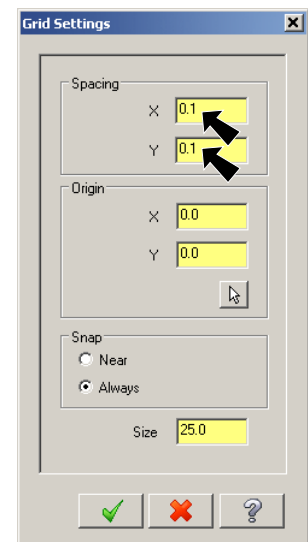

Fig. 18
Step 1. Use **Alt-G** to display Grid dialog box, Fig. 18